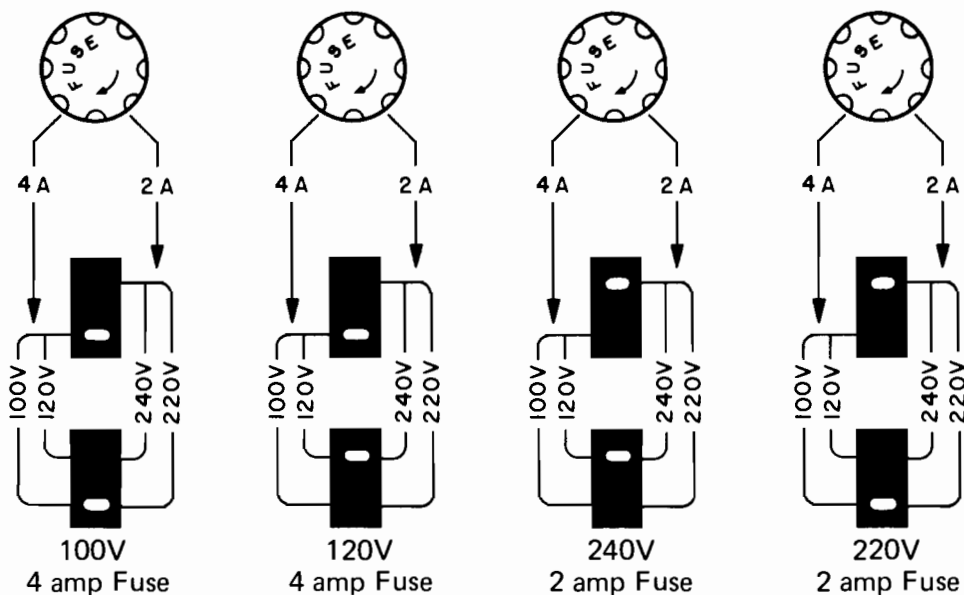

Figure 1. Setting the Line Voltage Switches
1. With the interface disconnected from any ac power source, verify that the correct fuse is installed (see Figure 1) for the line voltage in your area (refer to the preceding paragraph for information regarding the fuse).